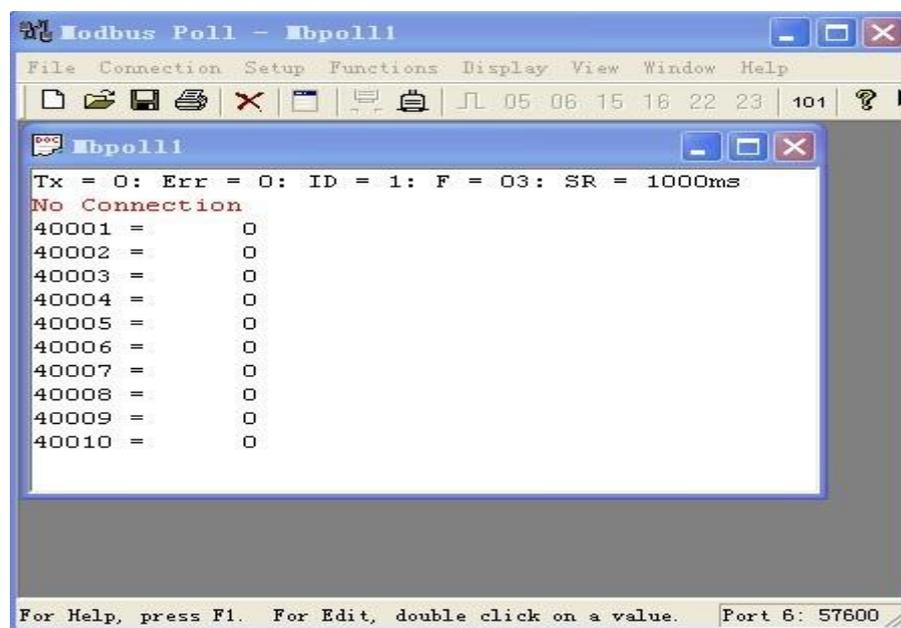

Figure 12.
2. Open modbus poll software as FIG 12: